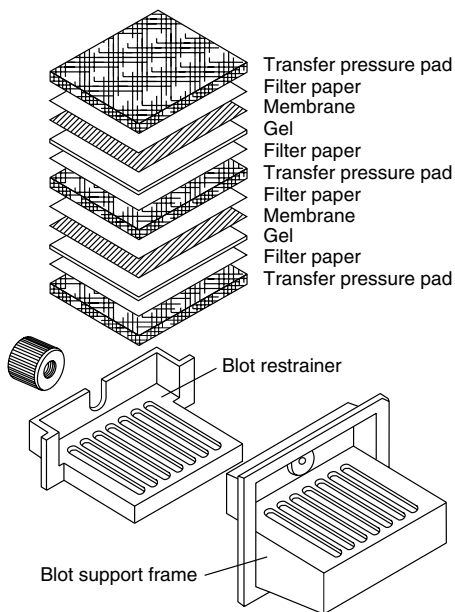

Figure 5. Blotting Stack Assembly.
3. Place the blot restrainer in a suitable container, such as a glass baking dish [20-cm (8-in.) square], containing 1 to 2 cm of cold transfer buffer. The wide, slotted face of the restrainer forms a tray on which the transfer stack is assembled (figure 5).